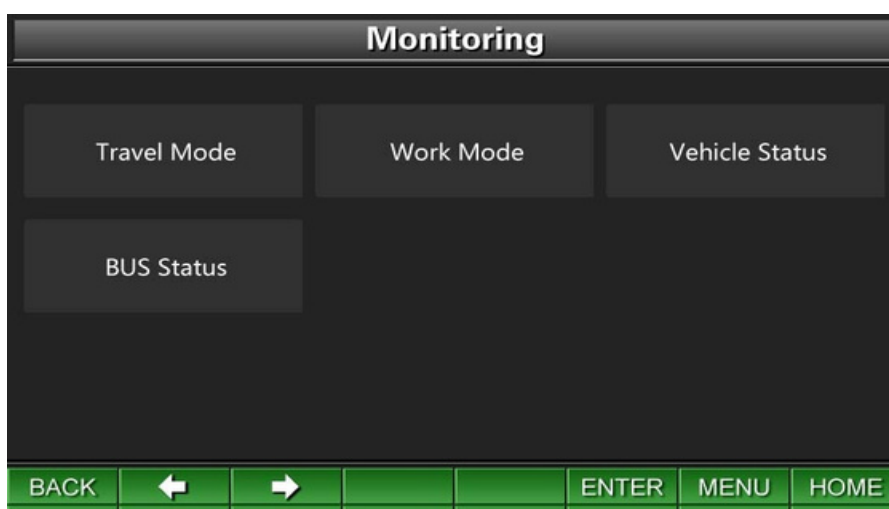

Figure06–20 Monitoring
- (1)Travel mode: move the cursor to select the icon “Travel mode” and press the key “ENTER” to enter the Travel Mode Screen. See Figure 06 – 13.